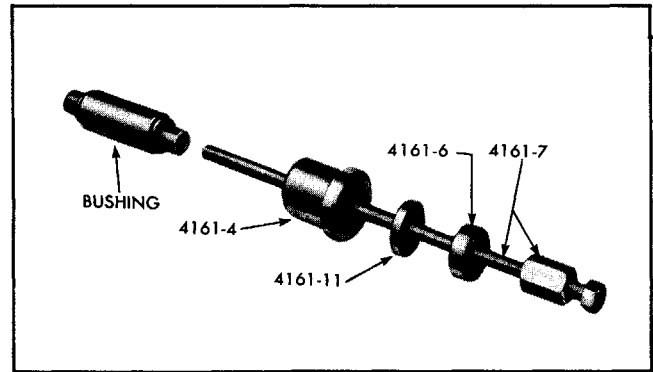

Fig. 4-58 Rear Bushing and Components of Replacer Tool J-4161-A
a. Oil threads and insert screw and nut assembly 4161-7 through thrust bearing 4161-6, washer 4161-11, flanged adapter 4161-4, and new bushing assembly (Fig. 4-58).
a. Oil threads and insert draw bolt 4161-5 with hex nut 4161-7 through thrust bearing 4161-6, washer 4161-11, flanged adapter 4161-4, and new spring bushing assembly (Fig. 4-58).